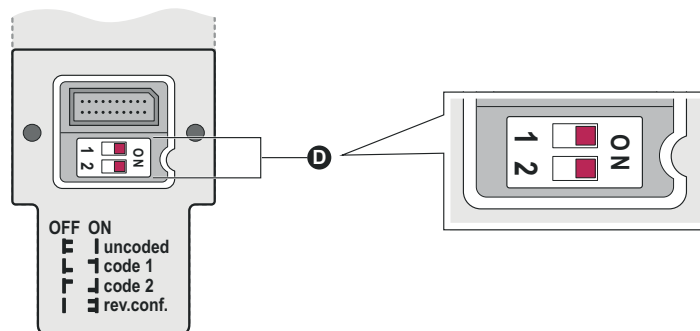

Figure 56: Reset to factory settings
3. In order to reset the restart interlock, external device monitoring (EDM) and cascading, set DIP switches 1 and 2 (row D) to On, see figure 56.